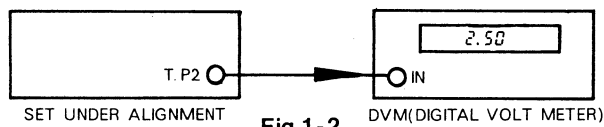

Fig.1-2
- Set up the test equipment as Fig. 1-2.